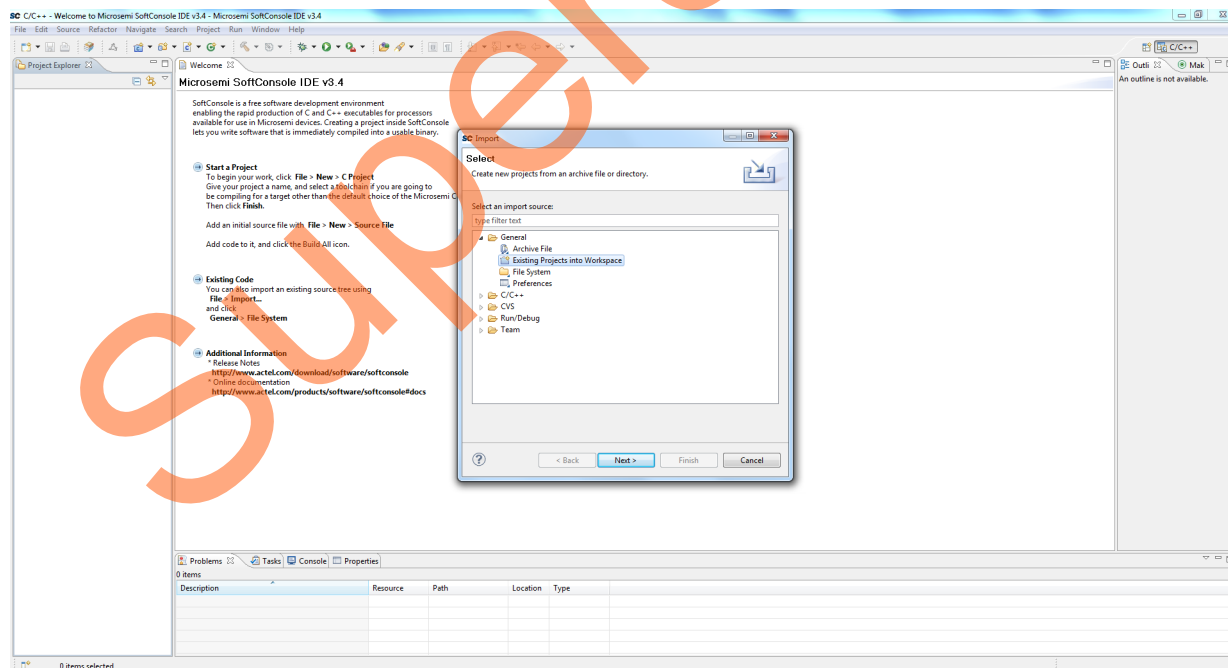

Figure 31 • SoftConsole IDE - General
- Select **General > Existing Projects into Workspace** as shown in Figure 31.